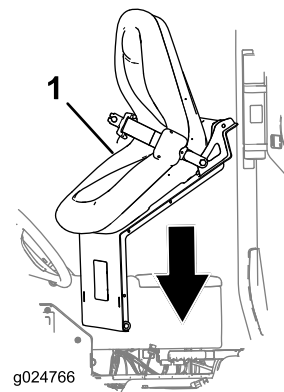

Figure 62
- Align the seat and seat pan with the holes in the machine frame where the seat was removed (Figure 62).